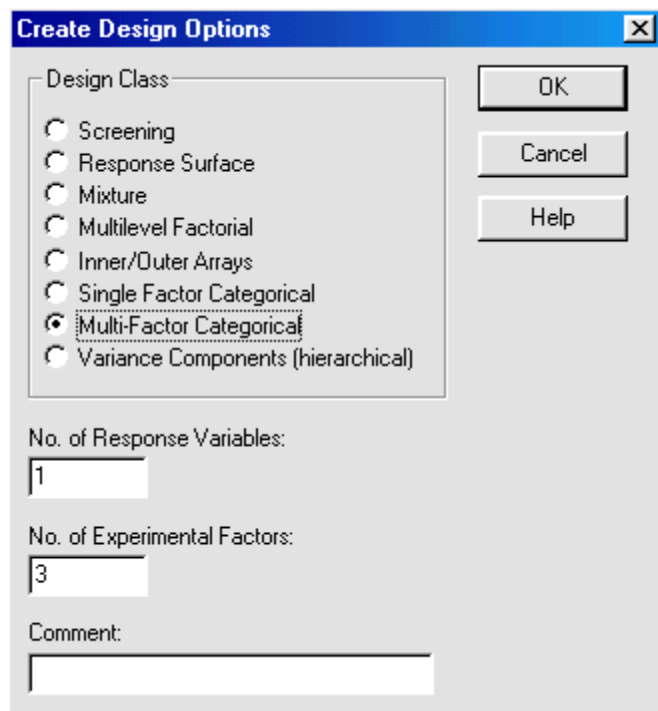

Figure 9-1. Create Design Options Dialog Box (Multi-Factor Categorical Designs)
1. Choose **SPECIAL... EXPERIMENTAL DESIGNS... CREATE DESIGN...** from the Menu bar to display the Create Design Options dialog box shown in Figure 9-1.